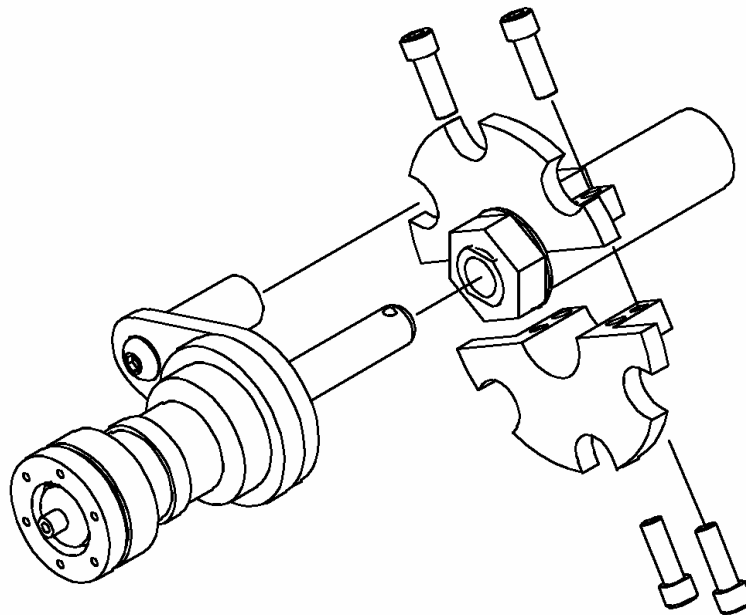
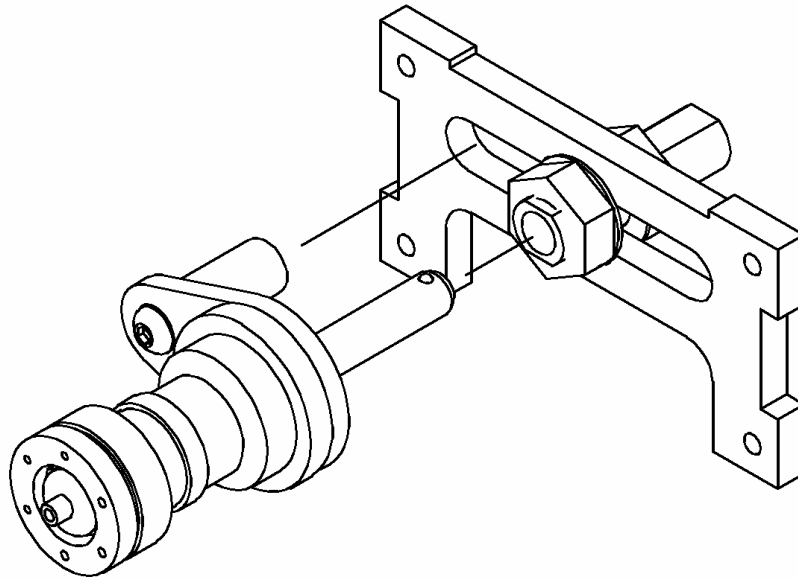

Figure 2 (Example Adaptor)
Figure 3 (Axle Plate)
Your 2-gear wheels will utilize your wheelchair's existing axle mounting system. However, **MAGICWHEELS**[®] 2-Gear Manual Wheels' unique geared transmission may require a small adaptor (See Figure 2, Page 8) installed onto the frame of your wheelchair to keep the anti-rotation pin from turning and allow proper shifting.
If your wheelchair has an axle plate (Figure 3, Page 9) then you do NOT need an adaptor. The anti-rotation pin is designed to fit into the elongated slot in your axle plate next to where the axle goes into your wheelchair.
4. Shift the wheel into Low (Climbing & Control) gear and rotate the wheel until the anti-rotation pin (Figure 1, Page 7) lines up with either the axle plate opening (Figure 3, Page 9) or the notch in the adaptor (Figure 2, Page 8). Push the wheel completely into the axle receiver until the button in the center of the wheel pops out. For instructions on shifting into Low (Climbing & Control) gear, see pages 11 and 12.